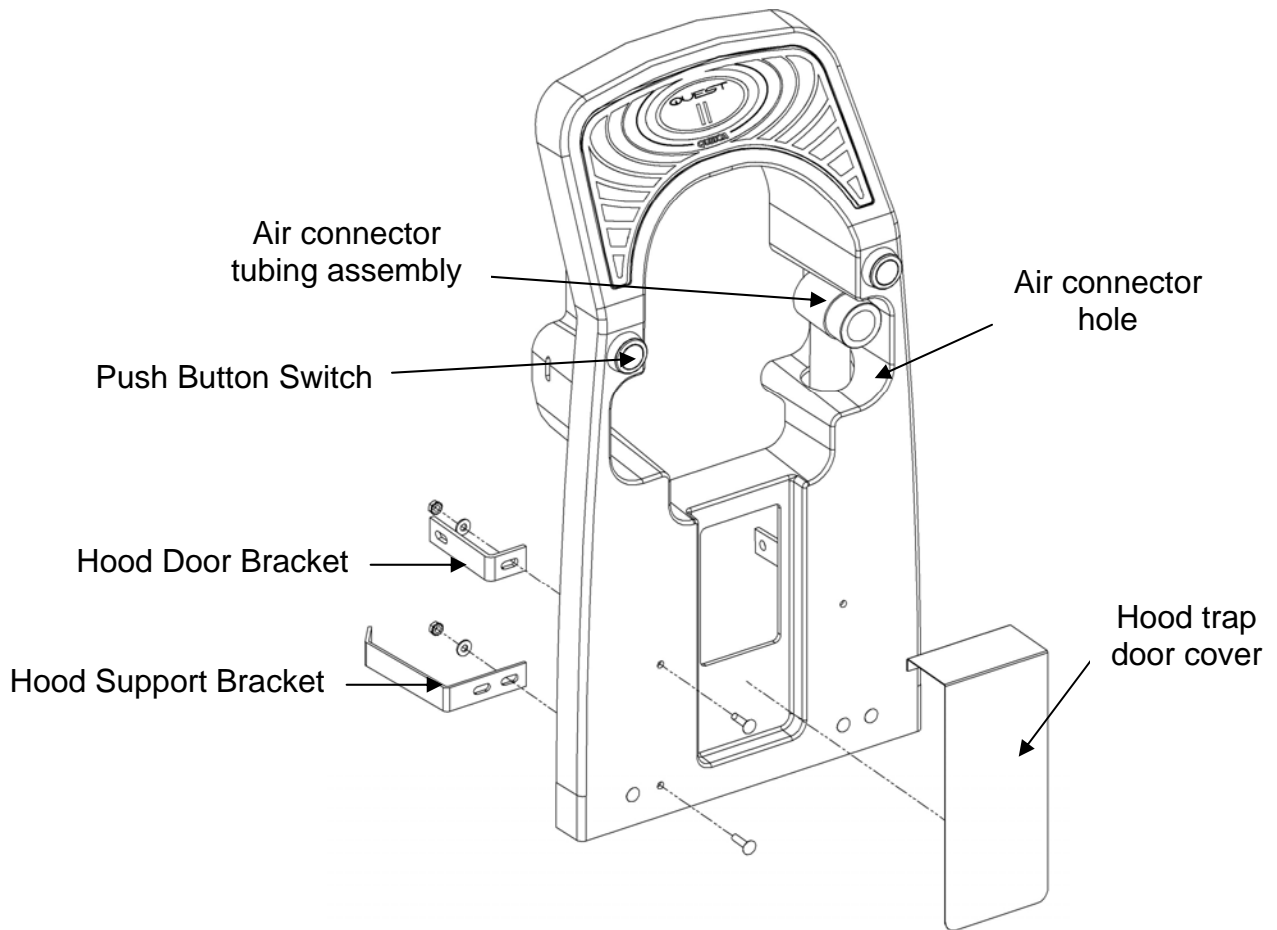

Figure 15, Hood Door Assembly
1. Assemble the push button switches (E-592BK) and attach them to the hood door. See figure 15. The switch button should be lined up with the plunger from the switch housing. Considerable force might need to be applied to get the switch to lock into place in the switch housing.
1. Install the Hood Trap Door cover to the front of the Hood Door (See figure 15).